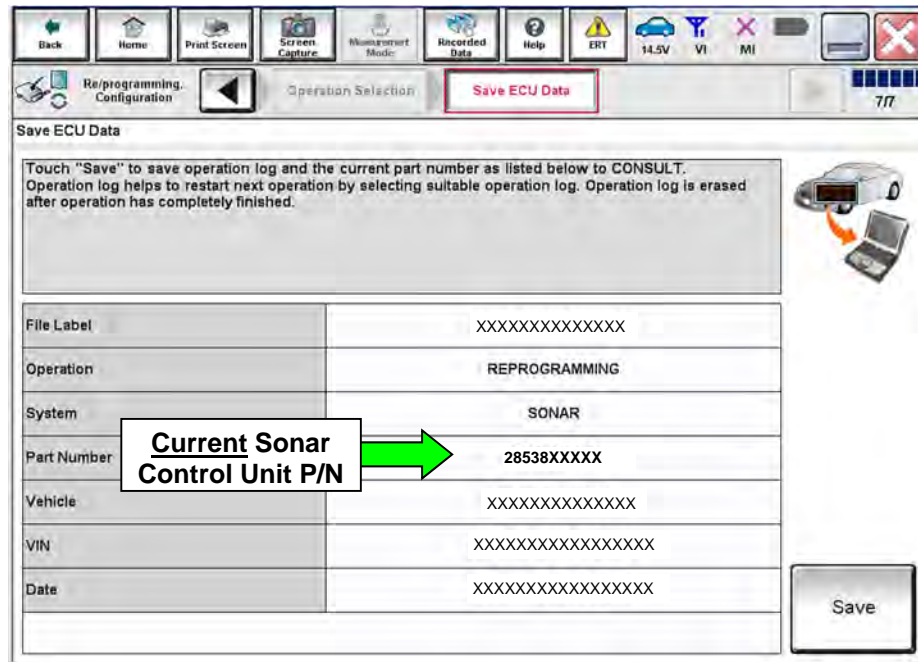

Figure 14
28. When you get to the screen shown in Figure 14, confirm that a reprogram is available as follows.